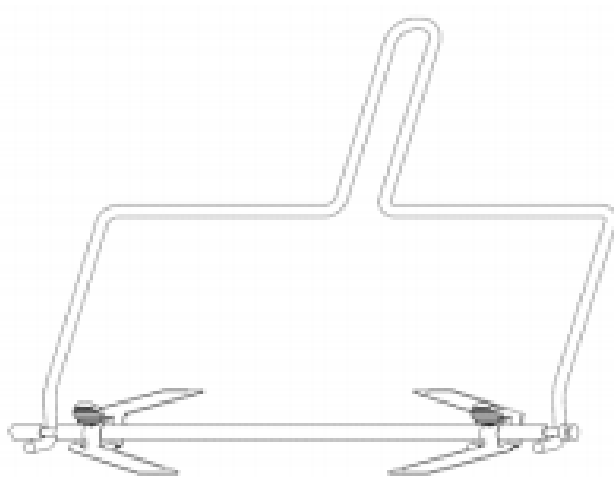

Fig. 7
- Always use the rotisserie handle to remove the spit from the oven when hot. Place the hooked ends of the rotisserie handle under the spit and into the notches (Figs. 7 & 8) and lift out.